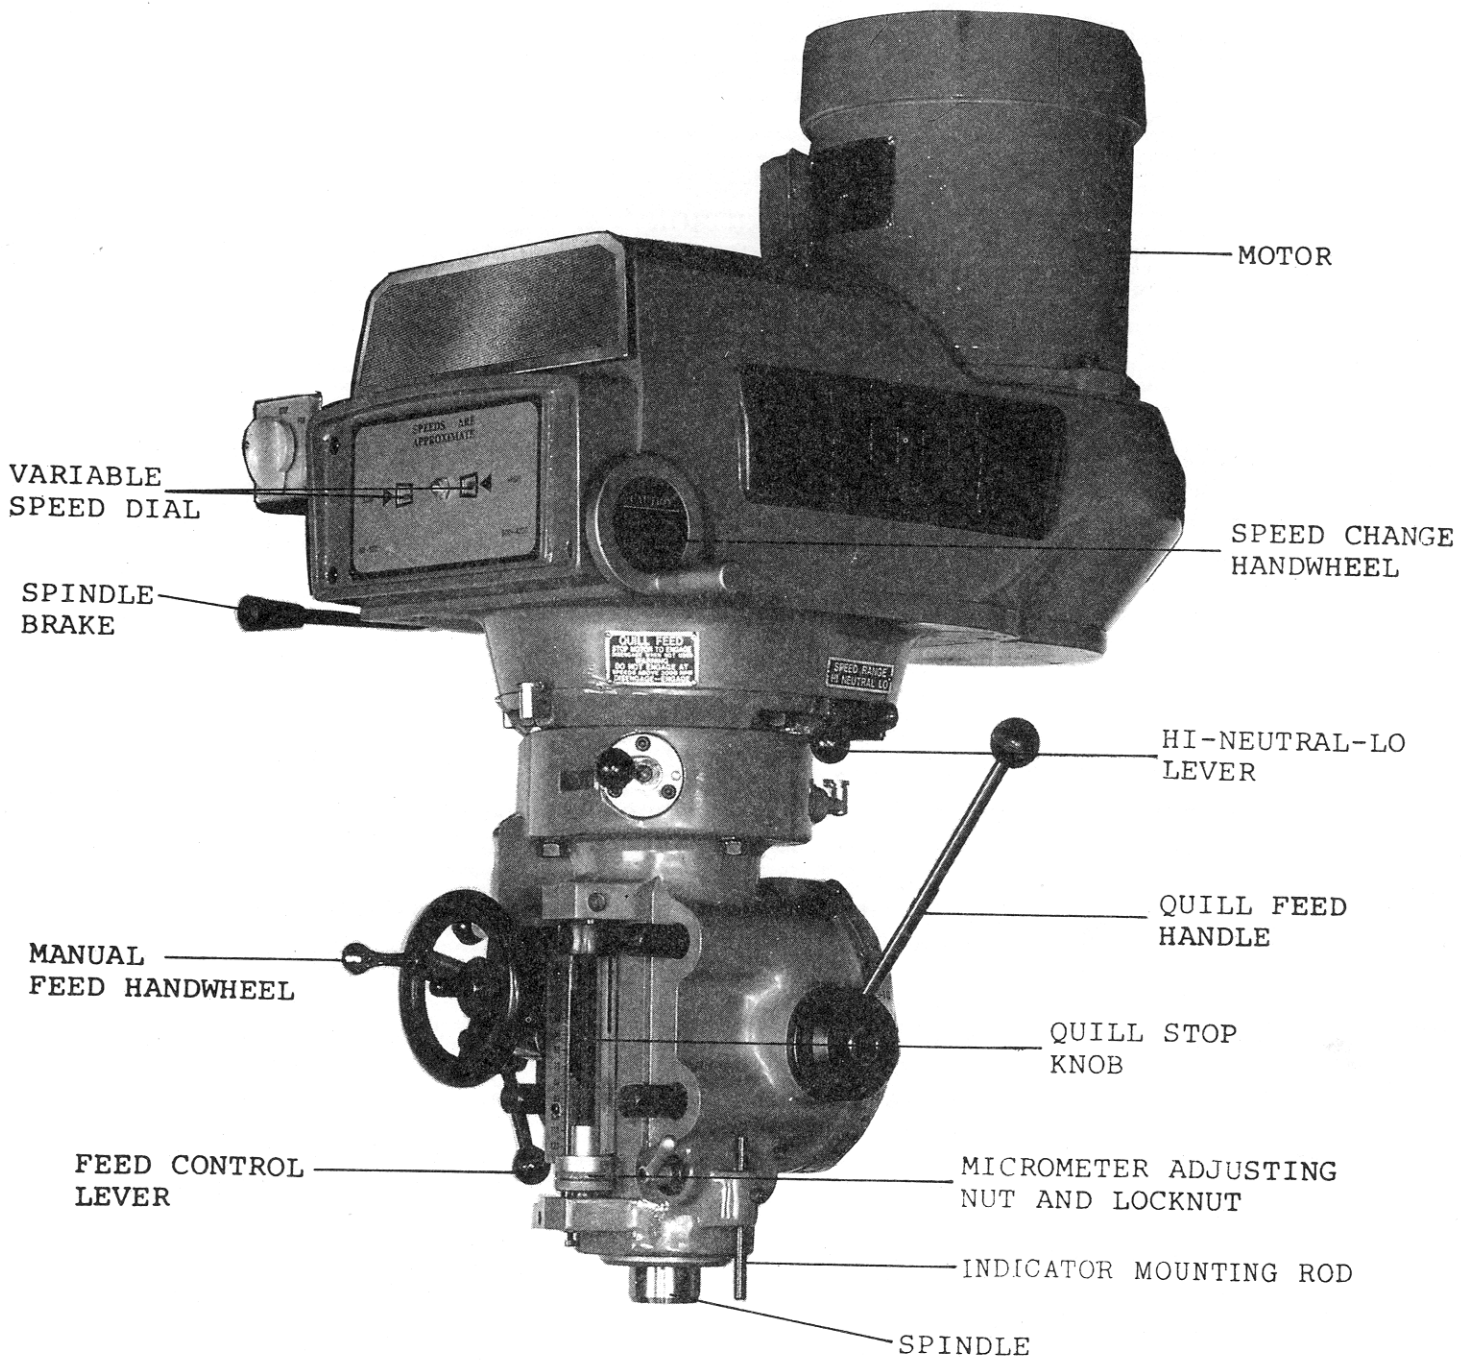
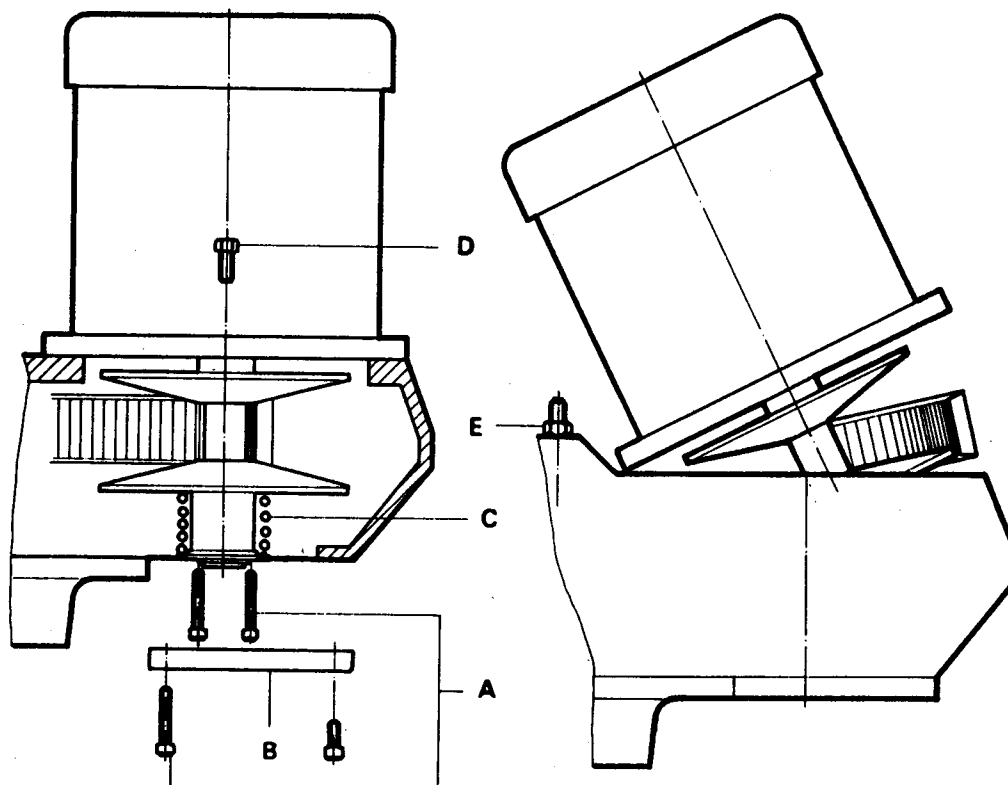
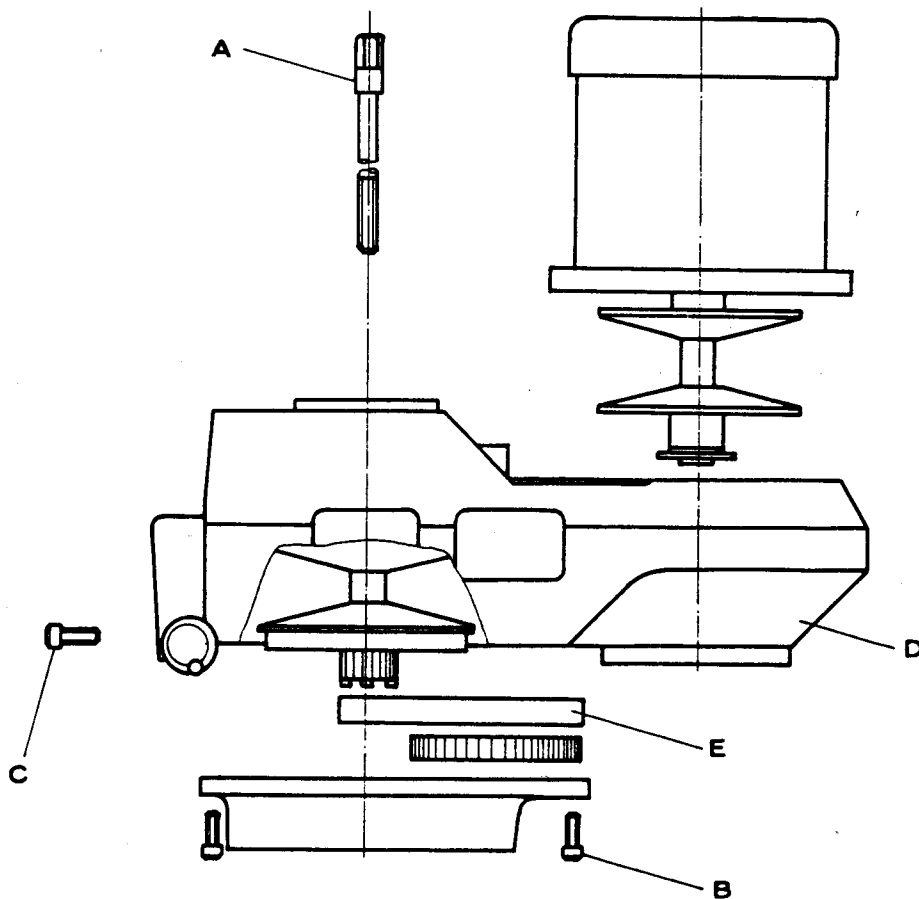

Figure 9. Vari-Speed Milling Head
Figure 10. Removing the Motor (Side View)
Figure 12. Removing Timing Belt
SPEED CHANGE HANDWHEEL (16, Figure 9) :
SPINDLE BRAKE (3, Figure 9):
OBSOLETE FORWARD REVERSE SWITCH (#1, Fig. 9):
HI-NEUTRAL-LO LEVER (#15, Fig. 9):
POWER FEED ENGAGEMENT CRANK (#4, Fig.9):
QUILL FEED SELECTOR (#5, Fig. 9):
FEED REVERSE KNOB (#7, Fig. 9):
MANUAL FEED HANDWHEEL (#6, Fig. 9):
Feed reversing knob should be in neutral position and feed control lever (#8, Fig. 9) engaged. Clockwise rotation of handwheel moves quill down. Manual Feed Handwheel and quill feed handwheel may be disengaged by moving them outward approximately 1/8".
OBSOLETE FEED CONTROL LEVER (#8, Fig. 9):
QUILL FEED HANDLE (#13, Fig. 9):
OBSOLETE QUILL STOP KNOB (#14, Fig. 9):
OBSOLETE MICROMETER NUT (#11, Fig. 9):
Wear on the vari-drive belt will cause a slight change in the speeds to that shown in windows (#23, page 36) on the dial. This can be corrected as follows. Crank the speed change handwheel (#16, Figure 9) snugly against the high speed stop. (This will be near the 4200 reading on the dial.) Use a tachometer to determine the spindle speed, then turn the pivot stud (#16, page 38), after loosening the jam nut (Item #7, page 38) until the spindle speed registers 4200 on the tachometer; tighten jam nut.
REMOVING THE MOTOR (See Fig. 10):
2. Remove the cover (#54,page 38) (B . Figure 10) at the lower end of the motor shaft. Use two cover screws (#55,page 38) (A) to fasten the spring (#44,page 38) (C) on the lower end of the motor shaft, to the lower motor vari-drive pulley (#43,page 38). This will reduce the hazard of personal injury that is always present when a heavy spring is under compression. When the pulley, spring retainer (#45,page 38) and spring are securely fastened as a single unit, crank the speed change handwheel (#16,Figure 9) to top speed position.
3. Now remove the screws (#9,page 38) (D) that fasten the motor to the belt housing. The motor should be lifted slightly and pulled firmly away from the spindle and toward the rear of the belt housing. This will pull the vari-drive belt (#27,page 38) deeply into the spindle pulley (#25,page 38) providing the slack needed to ship the belt over the motor pulley (#43,page 38).
4. Now lift the motor high enough to rest the motor base GENTLY on the adjusting screw (#16,page 38) (E) seen directly in front of the motor flange. The belt can now be slipped over the lower pulley and the motor removed from the housing.
CHANGING TIMING BELT (Figure 12)
Complete the operation for removing the motor. Then put the Hi-Neutral-Lo lever (#15, Figure 9) in the Lo position, remove the drawbar (#14, page 38) (A, Figure 12) and lower the spindle.